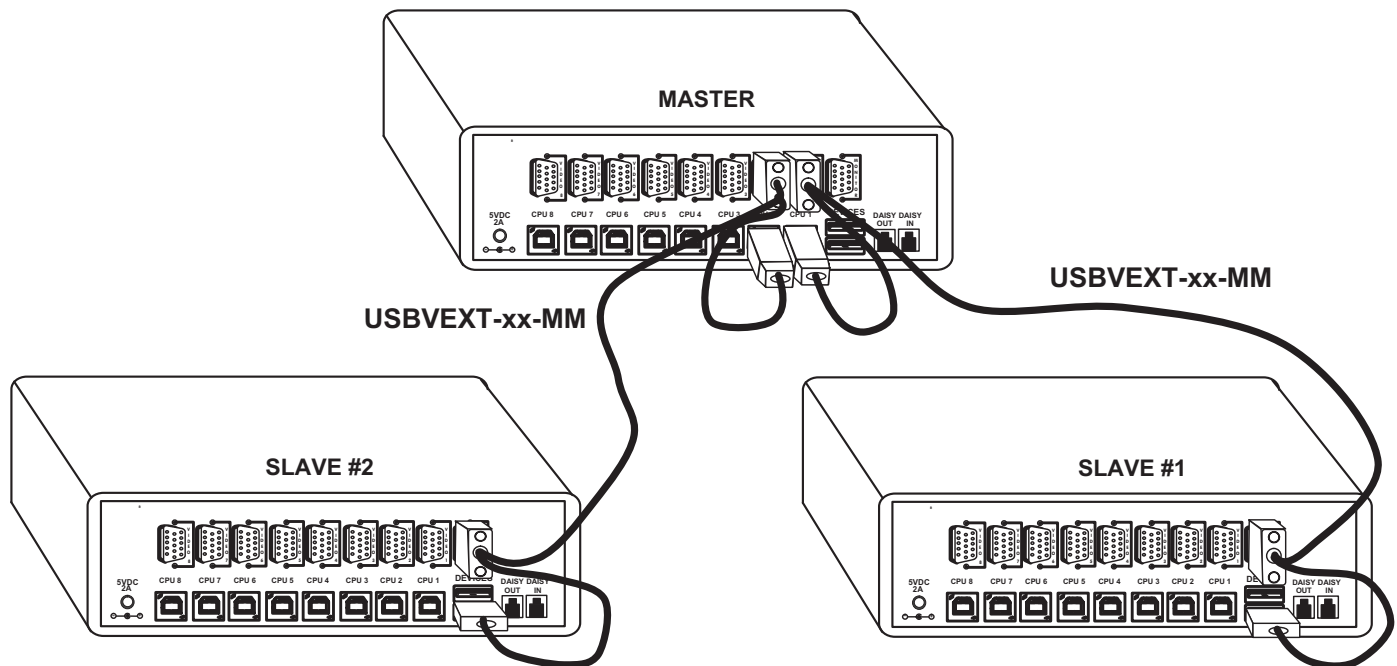

Figure 7- Master-to-Slave Device Cable Connections
- Repeat step b. & c. for each additional slave, keeping in mind that each slave will connect to the next available master's port (i.e. Slave #2 to master's VIDEO 2 & CPU 2, etc.) See Fig. 7 on page 8.